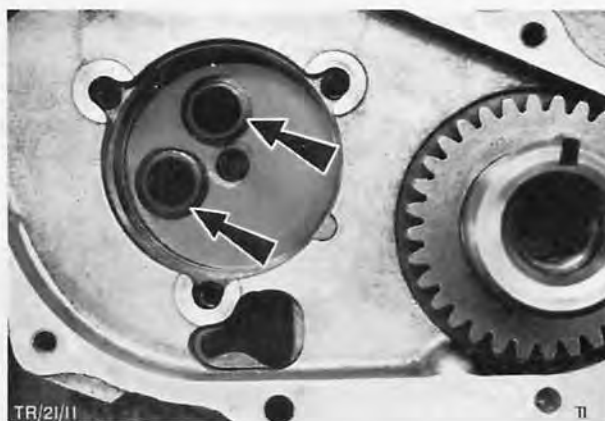
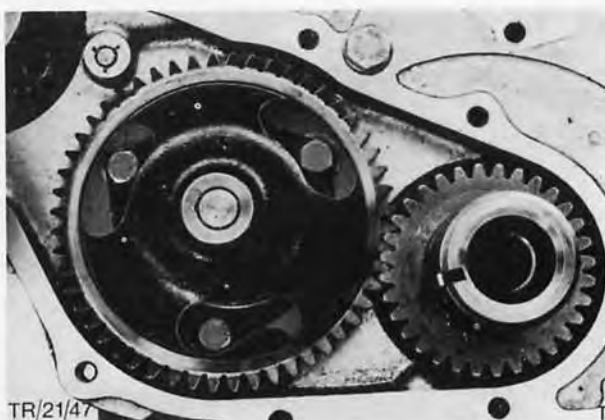

Fig. 76. Fit oil pump O-rings
Fig. 77. Fit oil pump
53. Fit oil pump with new O-rings, Fig. 76 and secure, Fig. 77.